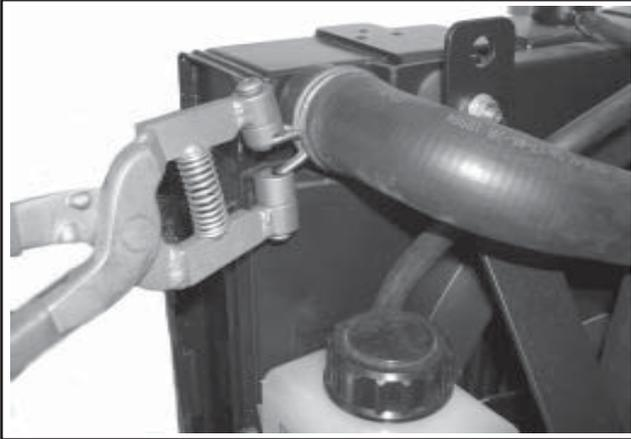

Figure 11-113. Installing Upper Hose Connection.
5. Connect the upper and lower radiator hoses to the inlets of the radiator and water pump. Secure with the hose clamps. See Figures 11-113 and 11-114. Make sure the tangs of upper clamp face away from the fan.